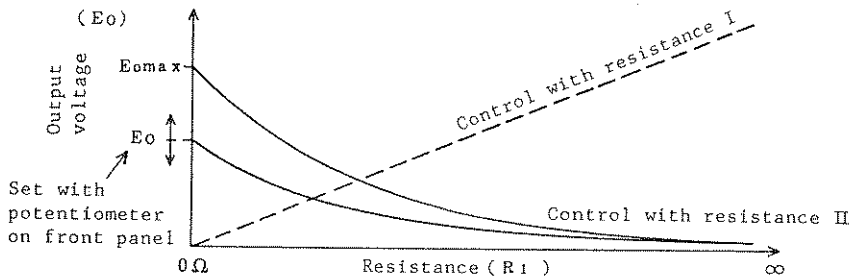
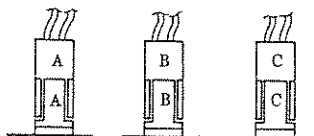
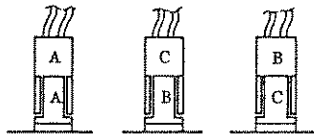

Figure 3-10
Figure 3-11
Figure 3-14
The output voltage ( $E_o$ ) is inversely proportional to the external resistance signal ( $R_l$ ) as shown in Figure 3-10. When the external resistance signal circuit is made open (the resistance has become infinitive) due to switching of resistances or by inadvertent handling of the external resistance signal circuit, the output circuit is driven toward the safer side (the output voltage becomes zero volts).
- (1) Disconnect the input power cord. Remove the cover referring to Section 4-1-3. Remove PC board A-650.
- (2) Connect the connectors A, B and C on PC board A-650 for the mating symbols as shown in Figure 3-11. (See Figures 3-10 and 3-3.)
- (2) Change the connections of connectors A, B and C on PC board A-650 as shown in Figure 3-14. (See Figures 3-10 and 3-3.)
- (3) Connect the external resistance signal ( $R_2$ ) between terminals ④ - ⑤. ( $0 \leq R_2 \leq 10 \text{ k}\Omega$ )
- (4) Throw the R/L switch to the L (local) position.
- (5) If the FINE VOLTAGE setting potentiometer has been modified for current setting, turn the potentiometer to the counterclockwise extreme position, remove its knob, and install the guard cap. (See Item (10) of Section 2-1.) (This procedure is not needed for the PAB110-0.6A, PAB250-0.25A and PAB350-0.1A which have no FINE VOLTAGE setting potentiometer.)
- (6) Paying attention so that the PC board is not contacted with the chassis, turn on the POWER switch and the OUTPUT switch.
- (7) Set  $R_2$  at 10 k $\Omega$ . Adjust potentiometer CC MAX on PC board A-650 so that the output current becomes the maximum rated current. This procedure is for full-scale adjustment. (See Figure 3-10.)
- (8) Carefully install the PC board and the cover.
- (9) Post the following seal on the transparent cover above terminals ④ and ⑤: